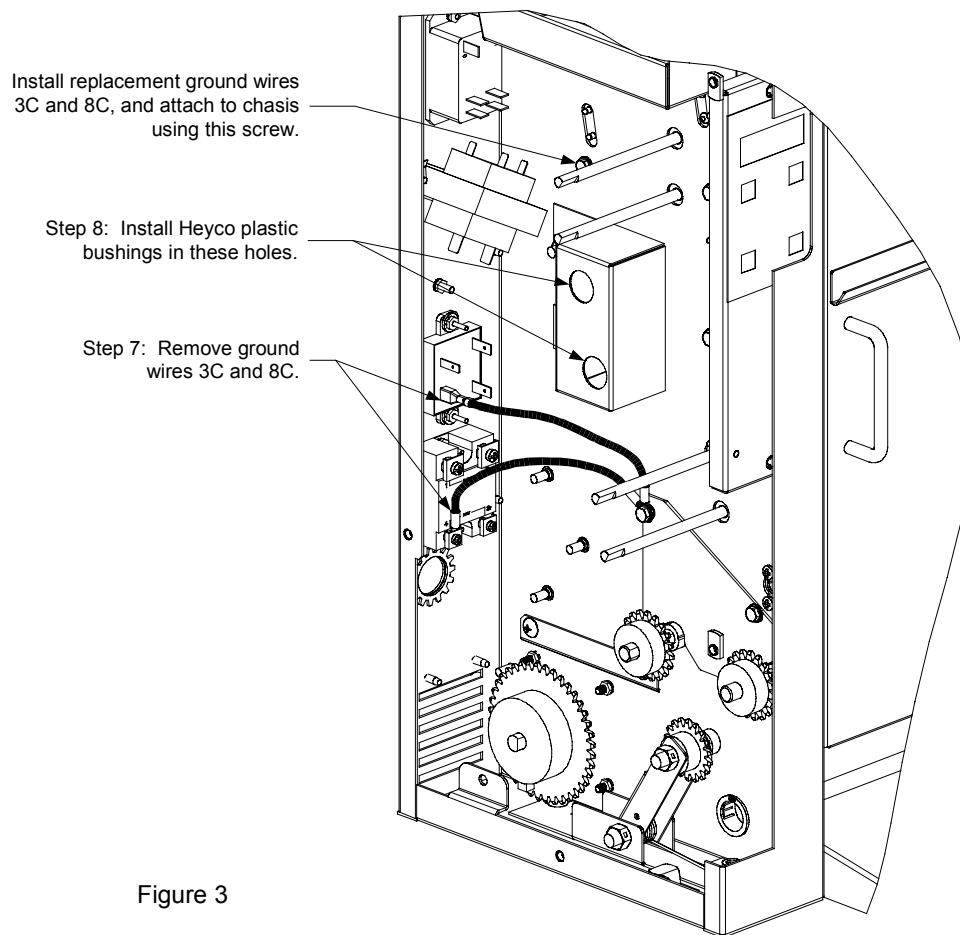

Figure 3
- Remove ground wires 3C and 8C from the toaster and install the replacement ground wires furnished in the kit, attaching the chassis ends to the screw shown in Figure 3 on the following page.
- Cut one side of each of the Heyco plastic bushings so that they can be placed over the heating element leads. Once the bushings have been placed around the leads, press them into the holes in the crumb guard as shown in Figure 3.